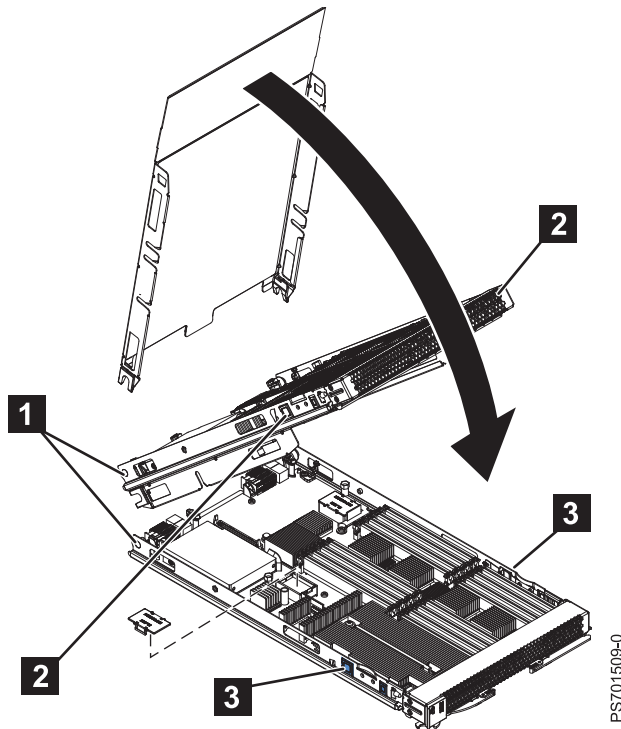

Figure 14. Installing the cover
2. Lower the cover so that the slots at the rear slide down onto the pins (**1** in Figure 14) at the rear of the blade server. Before you close the cover, verify that all components are installed and seated correctly and that you have not left loose tools or parts inside the blade server.